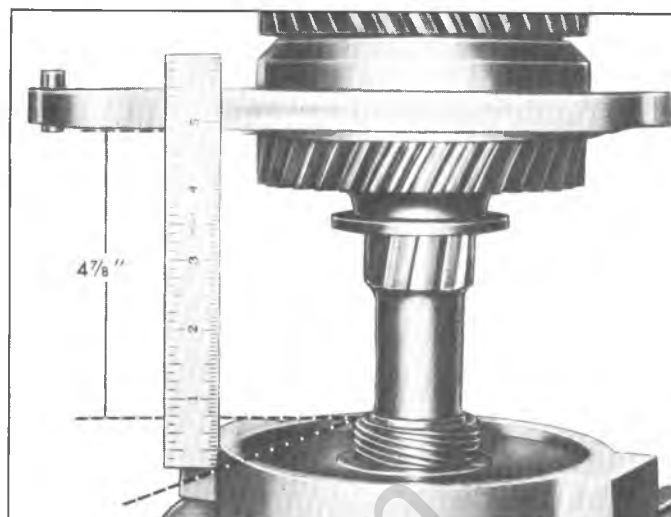

Fig. 14B--Installing Speedometer Gear
11. Install retaining clip and speedometer gear. On models using the metal gear, press speed. Drive gear onto mainshaft using a suitable press plate such as J-1453. Position the gear to obtain a measurement of 4 7/8" from the forward side of the gear to the flat surface of the rear bearing retainer (Fig. 14B).